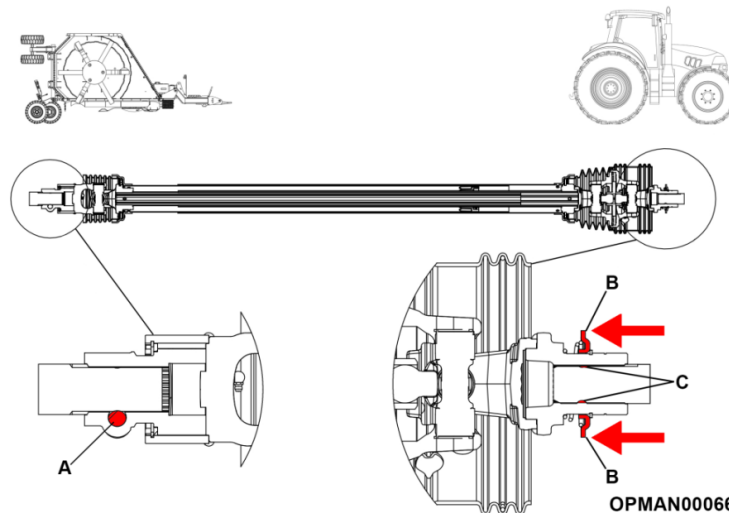

Figure 4.10 – Multicut Input Shaft Fitting & Removal
- 4.5.1.2 Install the input PTO shaft onto the splitter gearbox lining up the slot in the splitter gearbox shaft with where the input shaft taper pin will be placed; see Figure 4.10 (A). Replace the removed taper pin, flat washer and nut and tighten to a torque of 230Nm (170 ft/lbs).
- 4.5.1.3 Pull the input shaft yoke collar back and align the grooves and splines with those of the PTO output shaft of the tractor; see Figure 4.10 (B).
- 4.5.1.4 Push the driveline yoke onto the tractor output PTO shaft, release the locking collar and position the yoke of the input shaft until the locking collar balls are seated onto the tractors output PTO shaft; see Figure 4.10 (C).
- 4.5.1.6 Pull the input shaft yoke collar back and pull back the shaft off the output splined shaft of the tractor; see Figure 4.10 (B).